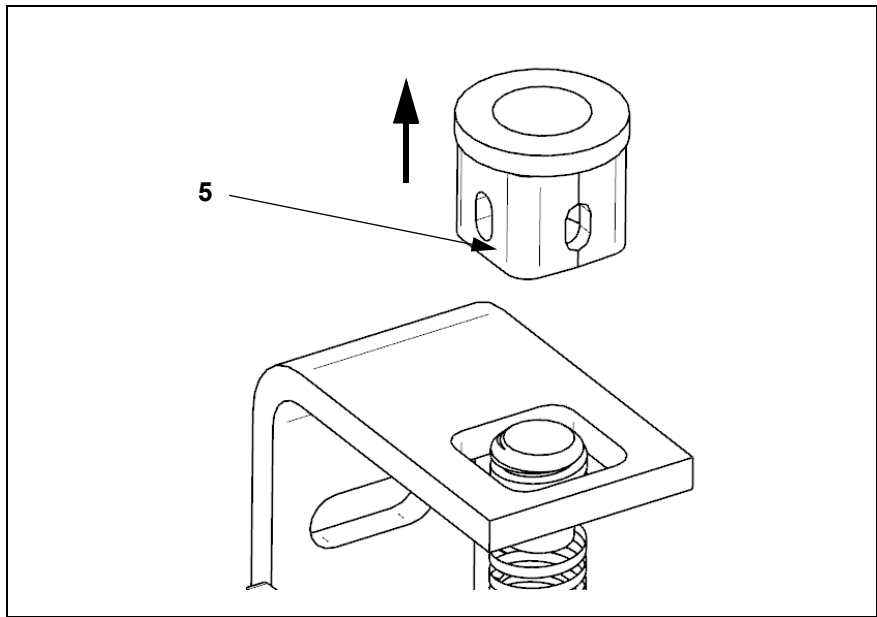

Fig. 2:
2. Remove the upper bearing bush (5, Fig.2) from the installation panel (1, Fig.2).